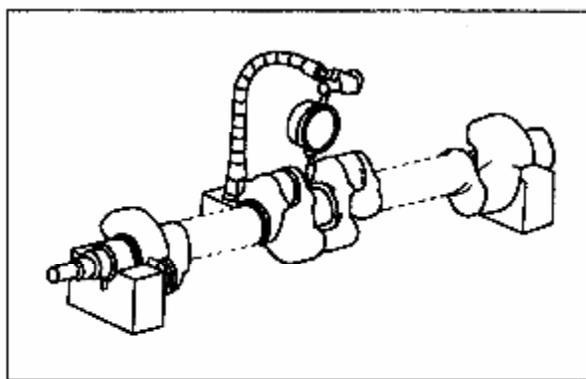

Figure 3-28 Check Crankshaft
**3.2.10** Follow Figure 3-28 to check run-out of main journal at middle of crankshaft (the maximum run-out is 0.06mm). If the run-out exceeds the maximum value, replace the crankshaft.